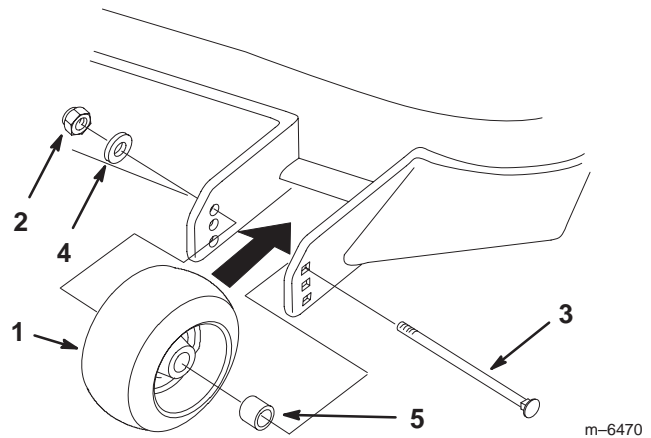

Figure 19
1. After adjusting height-of-cut, check the gage wheels so that there is a minimum of 3/8 inch (10 mm) clearance above the ground (Figures 19 and 20).
2. If adjustment is needed, remove the bolt, washer(s) and nut (Figures 19 and 20).
3. Select a hole position so the gage wheels are a minimum of 3/8 inch (10 mm) off the ground (Figures 19 and 20).
4. Install the bolt, washer(s) and nut (Figures 19 and 20).